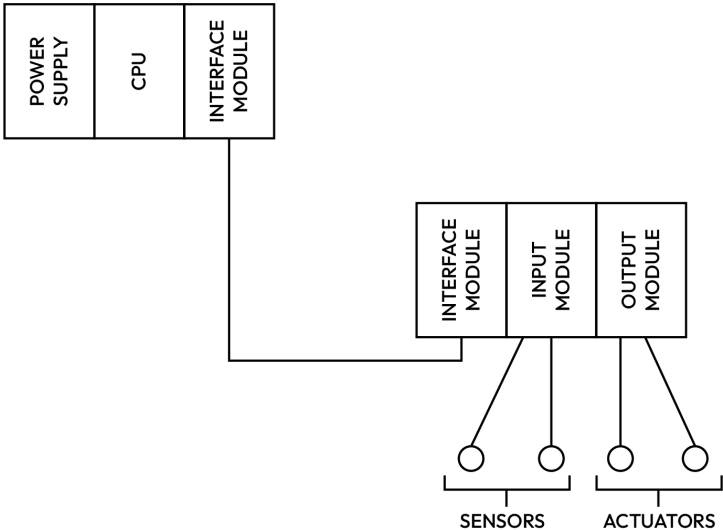

Figure 13.17 – Decentralized control system
Before PROFIBUS DP, I/Os were centralized in the control room, as shown in the following diagram, leading to lots of cables being used to wire sensors and actuators (which could be far away from the control room) to the input and output modules in the control room. Instead of connecting individual sensors and actuators in the field directly to the PLC's input and output modules in the control room, we can install an **Interface Module (IM)**; then, the input and output modules far away from the control room and the sensors and actuators can connect to it in the field area. Then, a single cable (PROFIBUS cable) can connect the faraway I/Os in the field (remote I/Os) to an IM in the PLC located in the control room, as shown in *Figure 13.17*. This greatly minimizes the cables required during wiring. We can have up to 32 devices in the PROFIBUS DP network per segment. The data transfer speed varies from 9.6 Mbps to 12 Mbps: